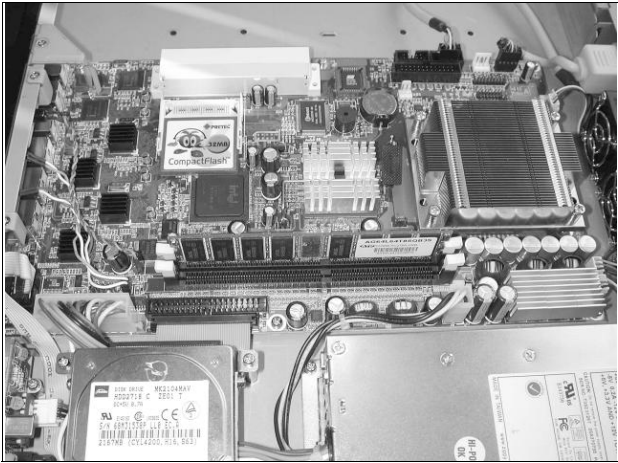

Fig. 2-5
3. Then reappear step 1 to 2 to install more RAM module.(**Fig. 2-5**)